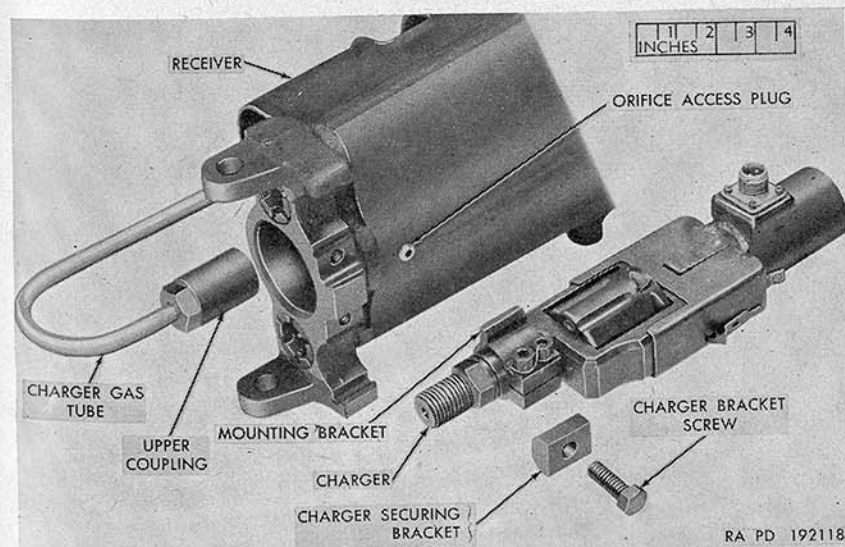

Figure 78. Charger removed from gun.
- (2) Unscrew charger bracket screw and charger securing bracket and remove charger (fig. 78).
- (3) Push gas tube and adapter outward from inside the receiver.
- (4) Unscrew the orifice access plug to gain access to the receiver orifice (figs. 78 and 81).
- (5) Tap out the receiver orifice.